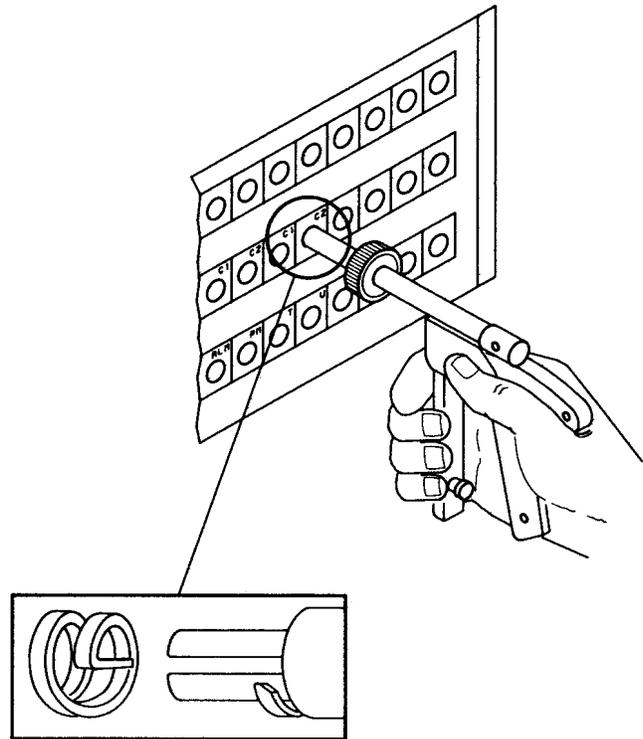

Fig. 8—Tool Insertion Into Spring Tang
- (4) Insert the tool into the block until the spring enters the slot of the stationary shaft of tool. (See Fig. 8.)